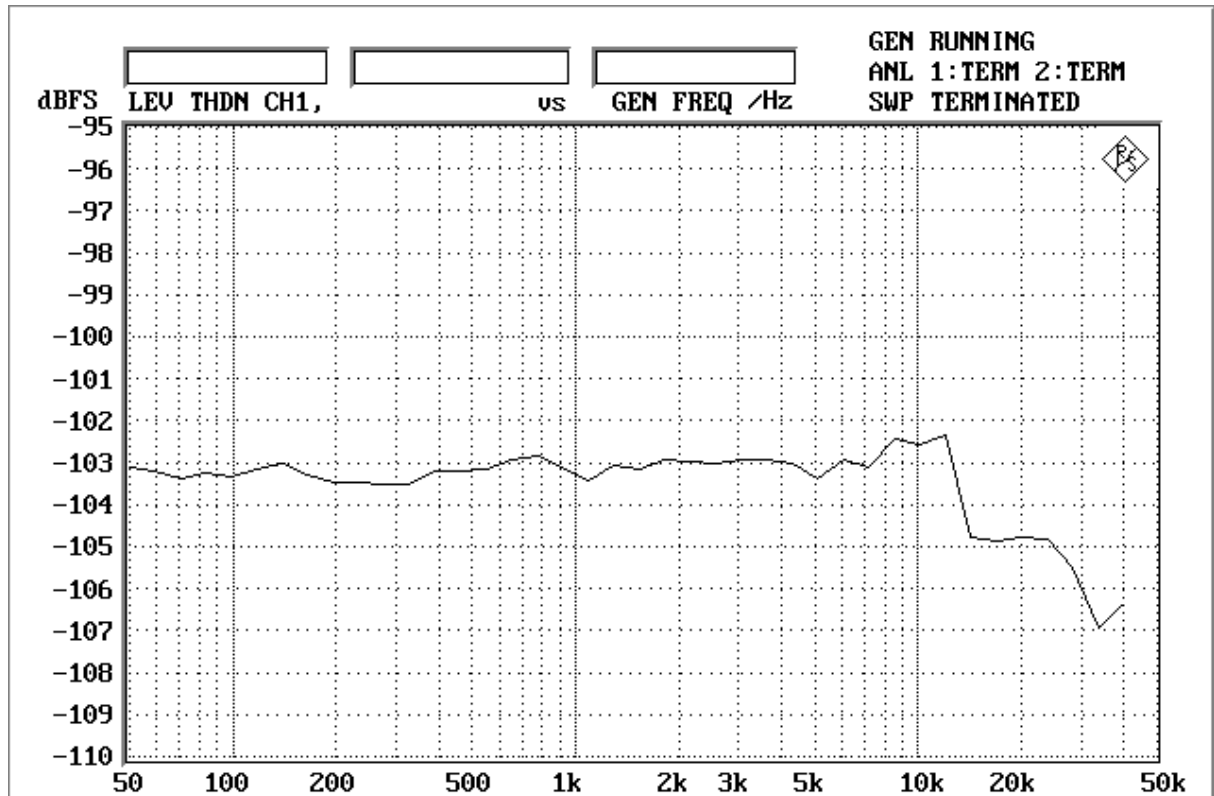

Fig.14 THD+N vs. Input frequency (Level = -1dB)
- Figure 14. THD+N vs Input Frequency (Input level=-1dB)